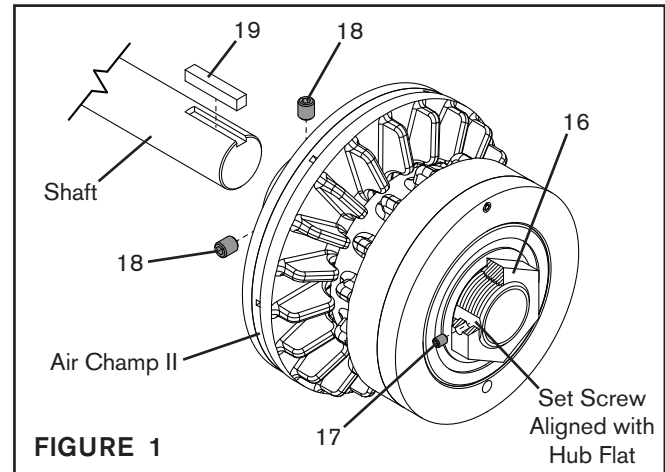

FIGURE 1
Refer to Figure 1.
**NOTE:** The Air Champ II comes with a machined flat on the threaded portion of the hub. Set screw (Item 17) must always be tightened onto this flat (See Figure 1). Two holes are provided in the adjustment nut (Item 16) for set screw (Item 17). The set screw can be installed in either threaded hole, but must be tightened down over the hub flat. For set screw (Item 17) Nexen recommends the use of a thread locking compound in high vibration applications, (Example: Loctite 242).